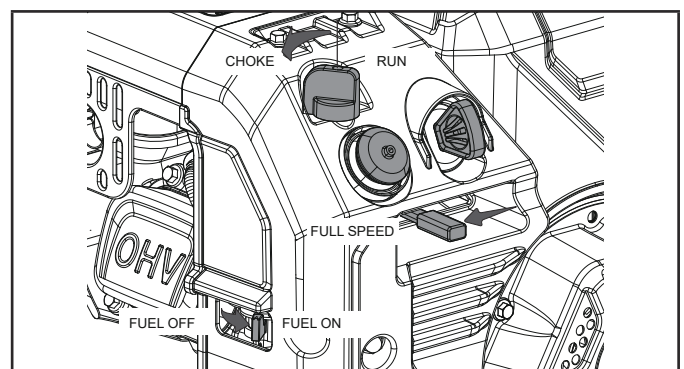

Figure 17
3. To start a cold engine: (Fig. 17).